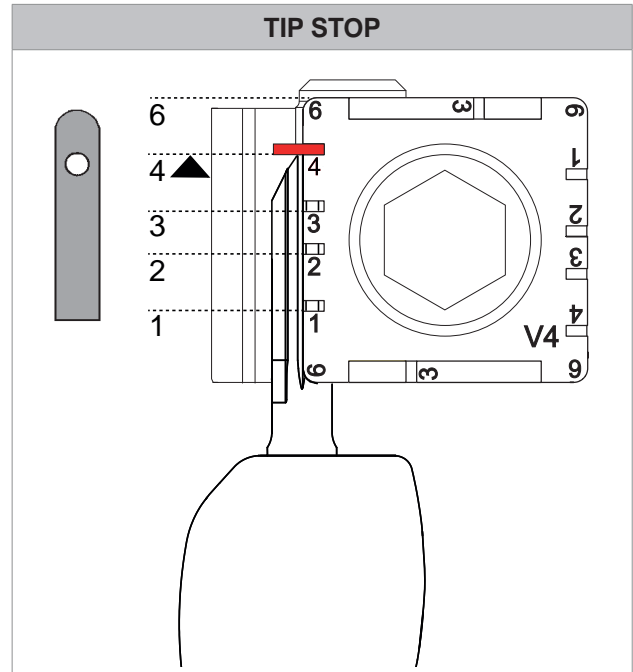

Fig. 94
- To fit keys with tip stops, insert the bar provided into the special grooves (Fig. 94).